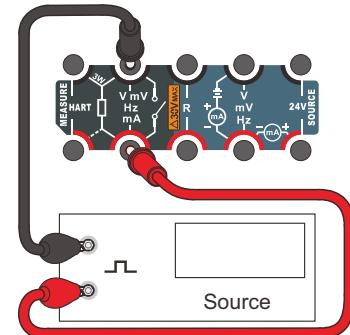

Figure 8.4 Pulse Counting
1. Figure 8.4 shows the pulse counting connections.